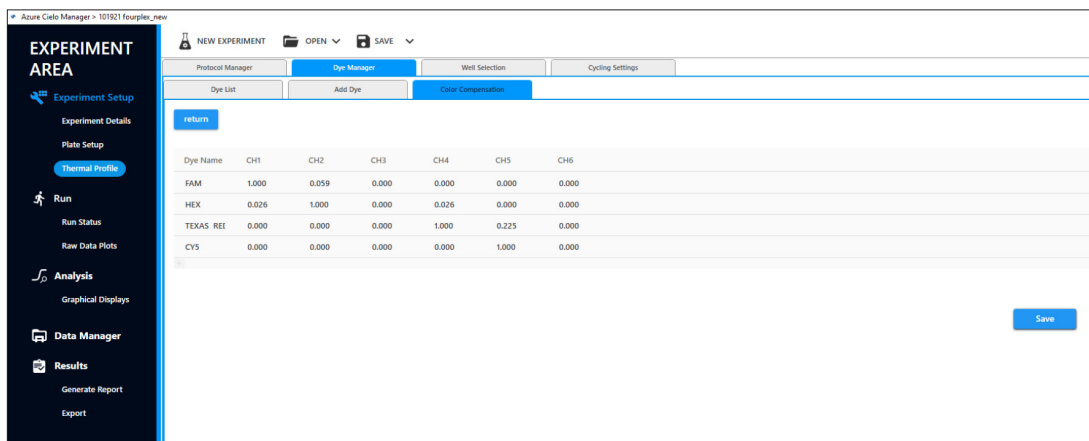

Figure 4.
7. Click save (Figure 4). Color compensation settings will automatically be saved and applied.